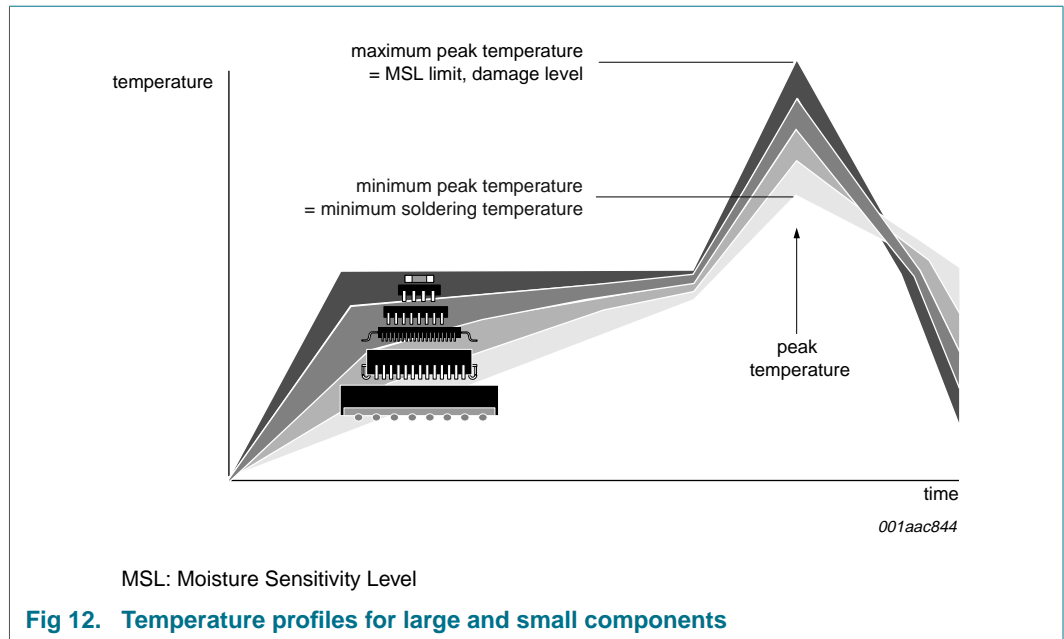

Fig 12. Temperature profiles for large and small components
- Lead-free versus SnPb soldering; note that a lead-free reflow process usually leads to higher minimum peak temperatures (see Figure 12) than a SnPb process, thus reducing the process window
Studies have shown that small packages reach higher temperatures during reflow soldering, see Figure 12.